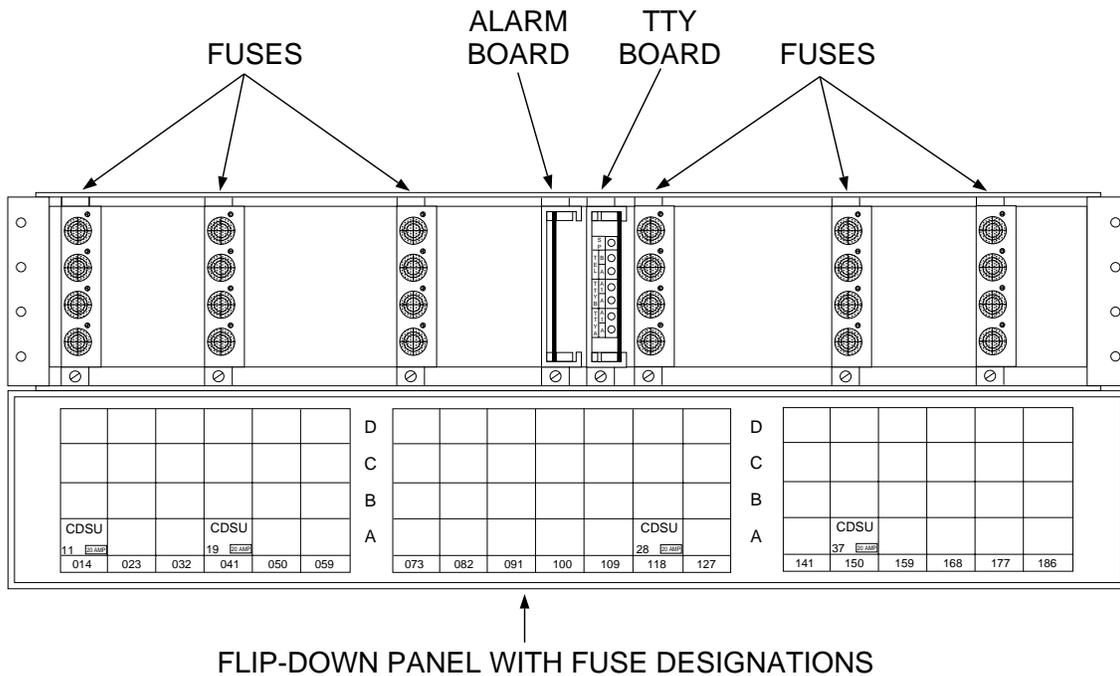

Figure 1. Fuse and Filter Panel for the CDSC-II
1. Look for a lighted fuse LED (indicates a blown fuse) on the fuse and filter panel at the top of the CDSC-II (see Figure 1).